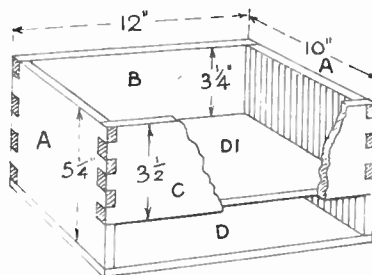

Fig. 1—The building of the box frame
Now cut the floor (D) 12 ins. by 10 ins. and glue this to the frame, putting in a few fret pins to hold the piece flat while the glue is hardening. The upper floor (D1) is now added. This measures 11½ ins. by 9½ ins., dropped in to a depth of 3½ ins. from the top of the frame, as seen in Fig. 1. One or two flat screws or